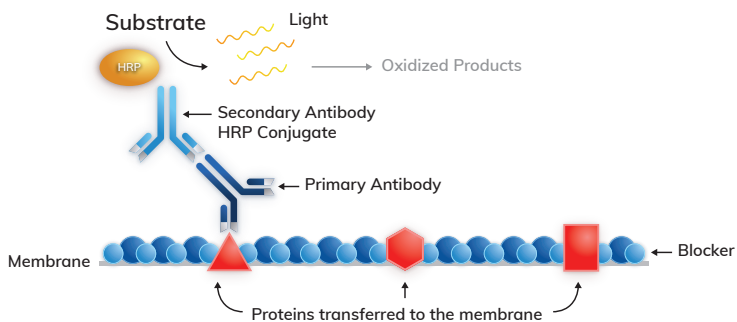

Figure 1. The principle of chemiluminescent Western blotting.
Western blotting is a protein analysis tool that has become commonplace in the molecular biology and protein chemistry laboratory. The principle of chemiluminescent Western blotting is shown in Figure 1. The general protocol, including the role of Radiance Substrates, can be seen on page 7. Proteins are separated by size via electrophoresis, and then transferred electrophoretically from the gel to a membrane support, usually nitrocellulose or PVDF. This membrane containing the transferred proteins is commonly referred to as a blot. The location of a protein of interest is detected on the blot by applying the primary antibody, which binds to the protein. The primary antibody bound to the blot is then visualized using a secondary antibody that binds to the primary antibody. The secondary antibody is labeled in some way to make it detectable, such as with a radioactive isotope or an enzyme that can be detected by its activity.
Since 1988, enhanced chemiluminescence or ECL(1) has become one of the most common detection methods in Western blotting(2). In this method, the secondary antibody is conjugated to the enzyme Horseradish peroxidase(1,2). Once bound to the membrane, the secondary antibody is detected by incubating the blot with a solution containing an HRP substrate that generates a light-emitting product after reaction with HRP (Figures 1, 2). The chemiluminescent signal can be detected by exposing the blot to X-ray film, or by imaging with a CCD camera.